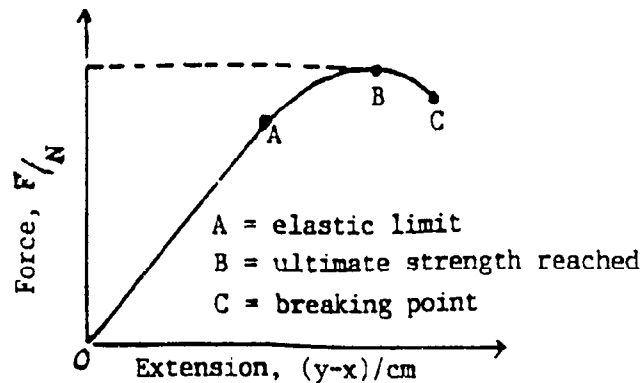

Fig. 18
Note that the graph consists of a straight portion (OA) followed by a curve ABC. See figure 18.